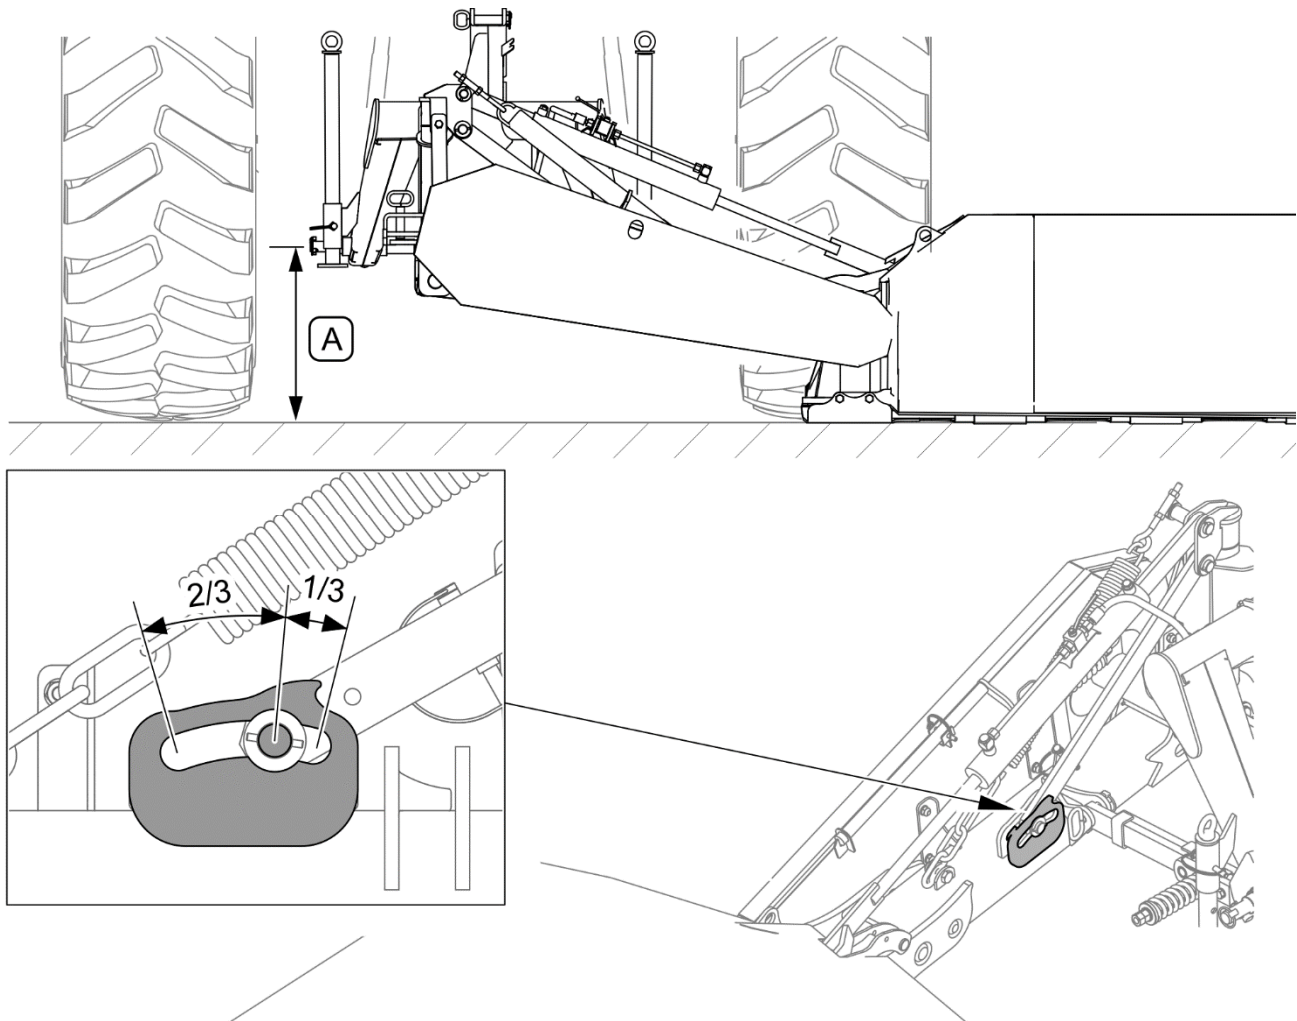

FIGURE 4.10 Setting mower suspension height
Raise lower lifting arms of tractor to such a height (A) that the pin may be set as in figure 4.10